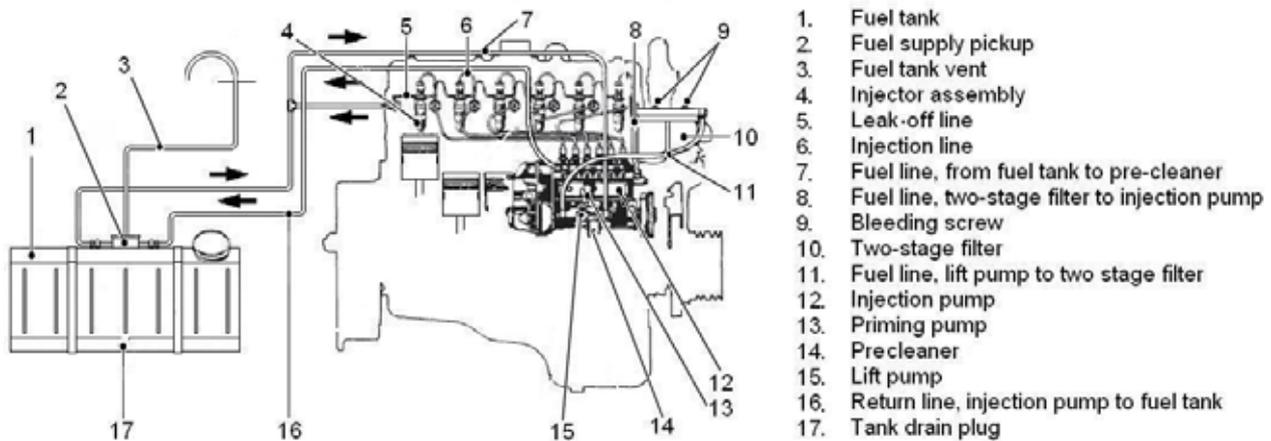

Figure 4 Fuel System Arrangement
11. The fuel flow and the arrangement of fuel system components are shown in Figure 4.